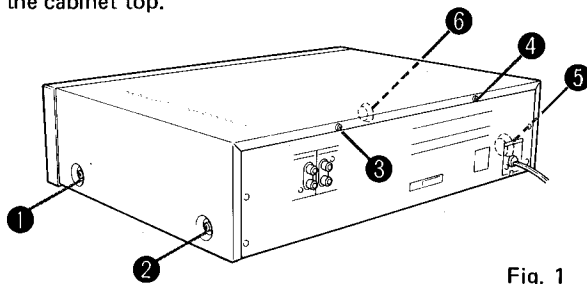

Fig. 1
① CABINET TOP REMOVAL
Remove the screws ① to ⑥ in Fig.1 and then remove the cabinet top.